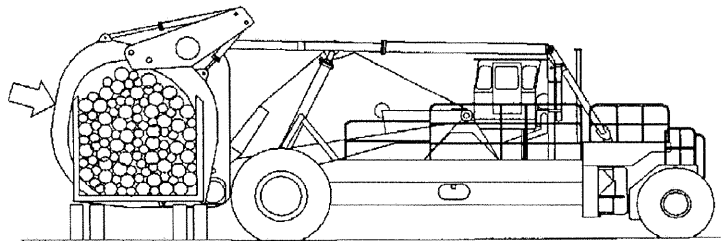

Fig 4-4
2. Move in until the back of the carriage is against the load. Partially clamp the load to prevent logs from rolling off. See Fig. 4-4.
4. Securely clamp both holddown arms before the binder chains are removed. See Fig. 4-4.